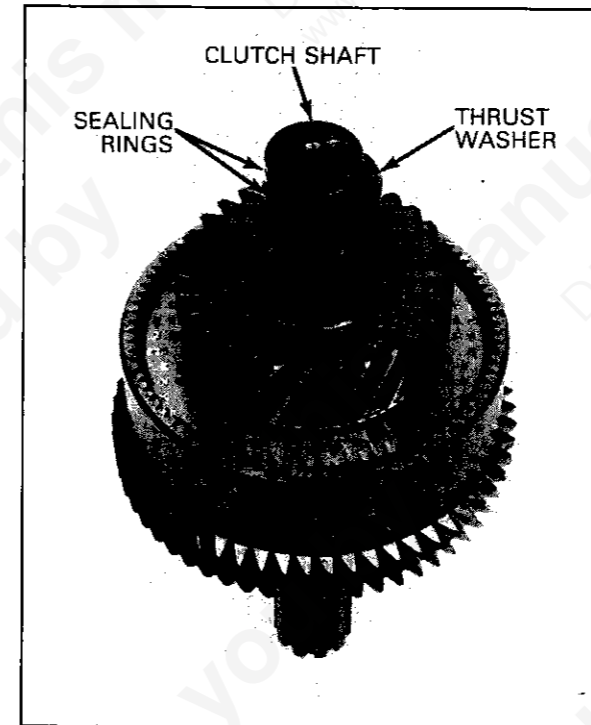

FIG. 32 CLUTCH SHAFT SEALING RING INSTALLATION
29. Assemble the two sealing rings into the grooves of the shaft. Use petroleum jelly to lubricate sealing rings (Fig. 32). Hook the ends of the rings together.